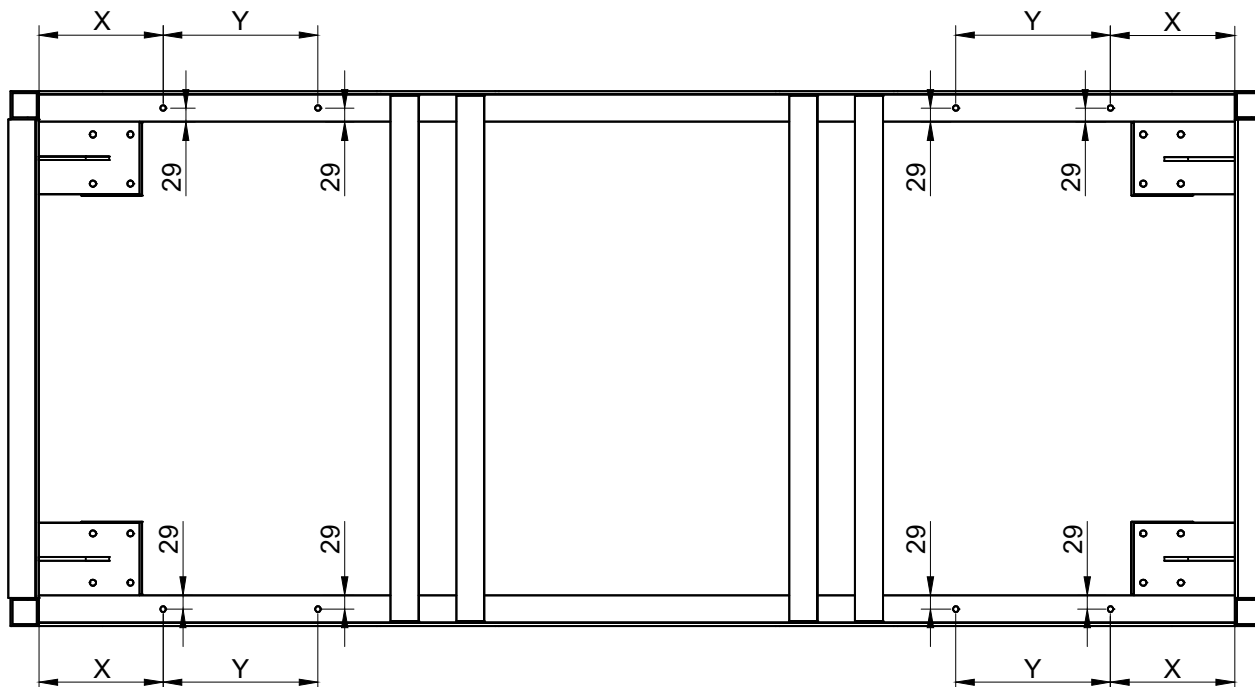

Figure 2
2.1 Each container requires 8 holes as shown in Figure 2. The spacing of the holes depends on the length of the transportcontainer See Table 1 for the corresponding values. The holes are to be drilled using a 12mm diameter drill bit.